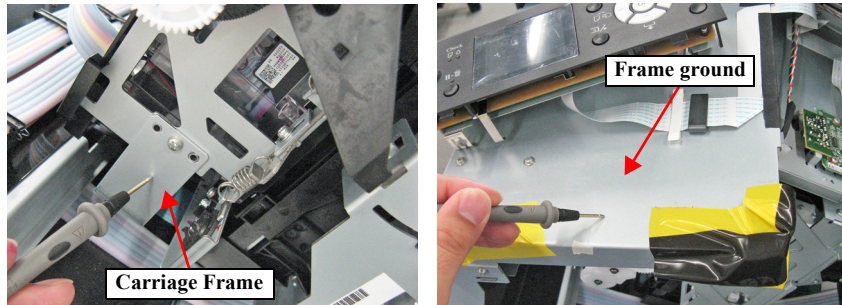

Figure 5-75. Measurement of resistance (4)
25. Measure the resistance between the Carriage Frame and the frame ground. (Figure 5-75)